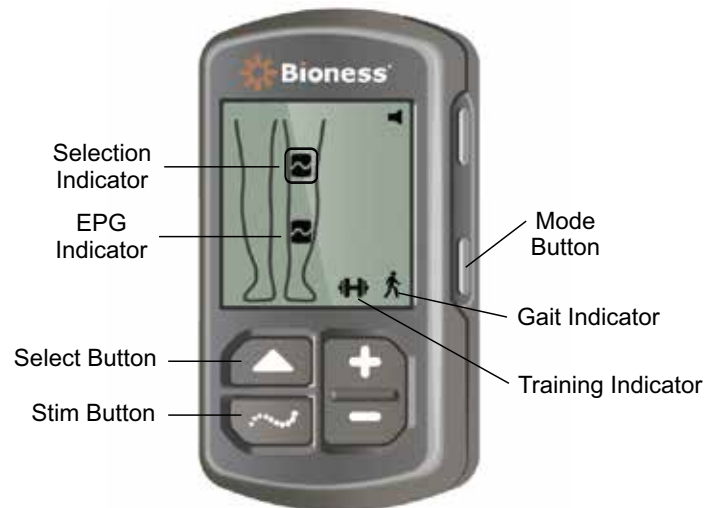

Figure 4-8: Selecting an Operating Mode on the Control Unit
be used to toggle between the Lower Leg EPG and thigh EPG or to select both EPGs. See Figure 4-8.
5. To select Gait mode, press the Mode button on the Control Unit until the Gait Indicator icon appears in the lower right corner of the digital display. See Figure 4-8.
6. To select Training mode, press the Mode button on the Control Unit until the Training Indicator icon appears in the lower right corner of the digital display. See Figure 4-8.
3. To stop stimulation, press the Stim button on the Control Unit. See Figure 4-8.